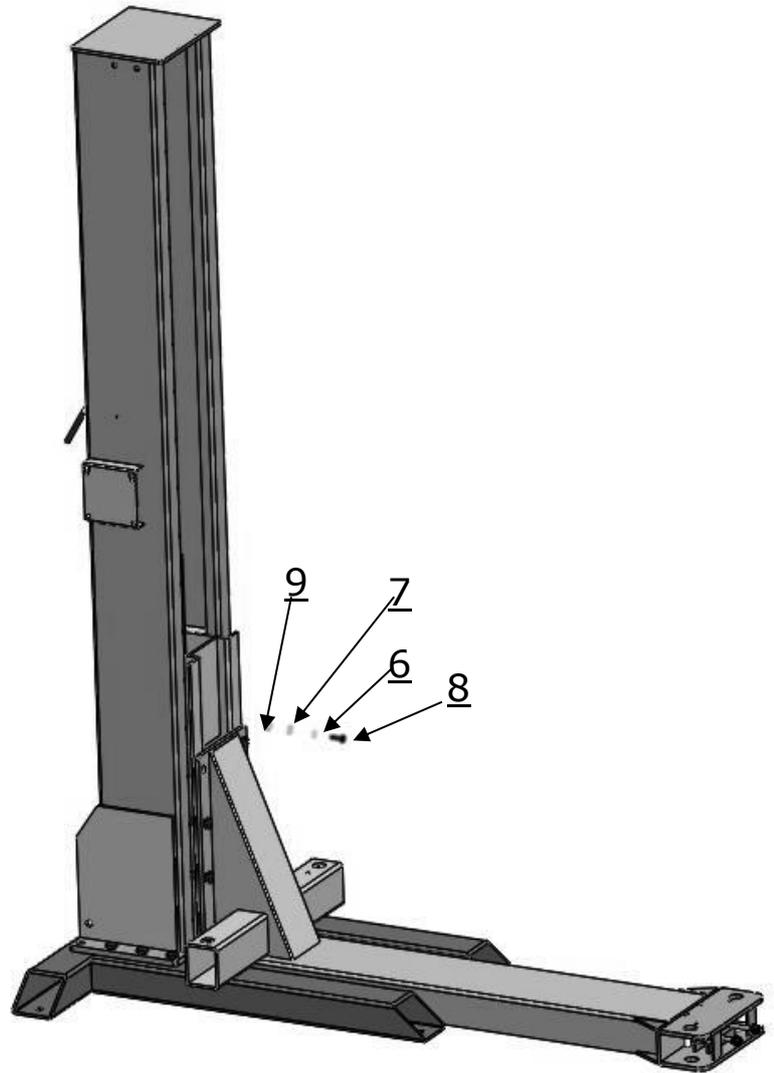

Fig.13
4. Fix lifting platform to carriage.(See Fig.13)